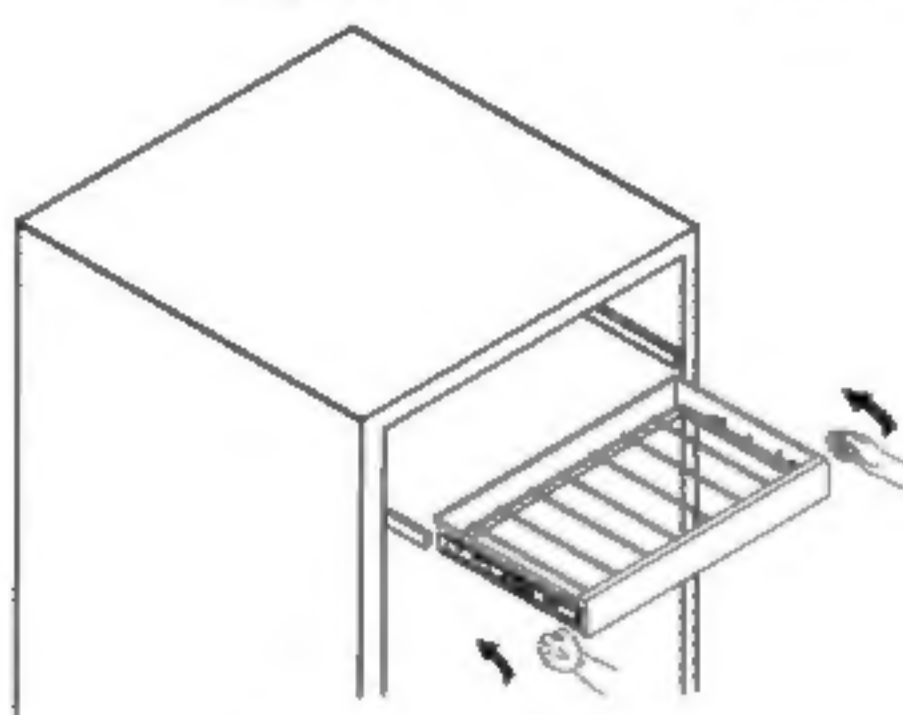

Figure 2
3. Push the racks into sliders. (See figure 2)